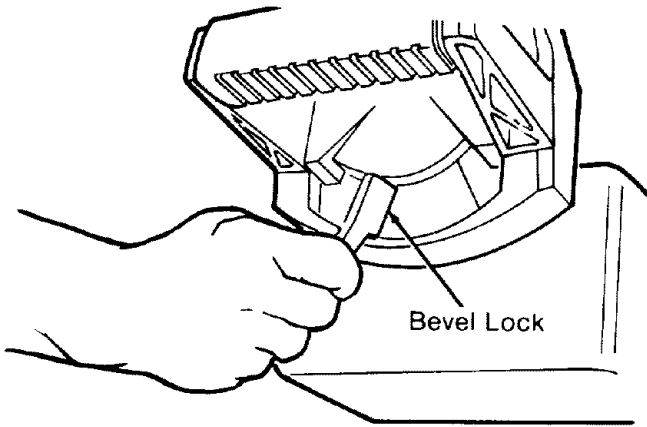

Fig. 13D
11. Push the *bevel lock* to the left as far as it will go. (Figure 13D)